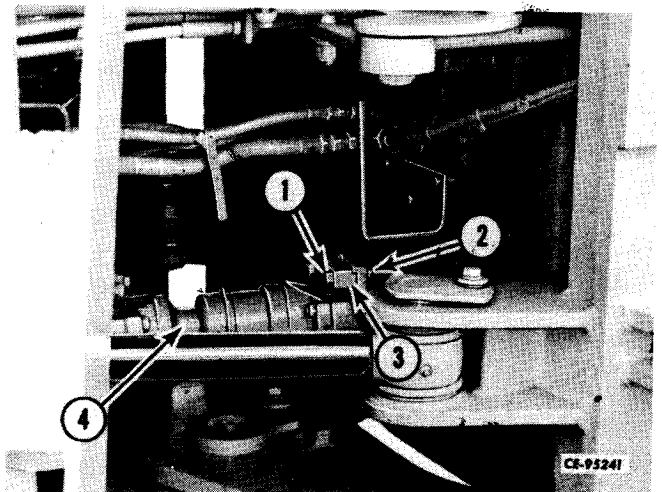

Figure 5-16
Install the drive shaft in the tractor. Be certain the slip joint end of the shaft is located as it was at removal. Fit the bearing caps securely in the grooves in the mounting yokes. Install two cap screws (1, Fig. 5-16) and nuts (2) in the bearing